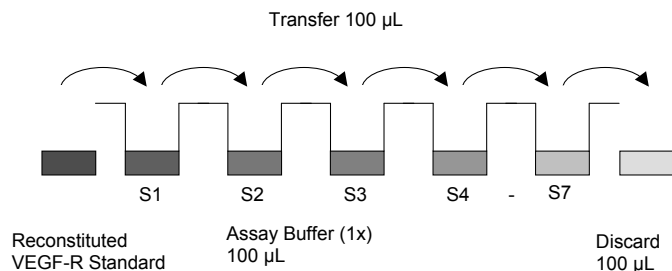

Fig. 7 Dilute standards - microwell plate
- Standard dilution on the microwell plate (Alternatively the standard dilution can be prepared in tubes - see "External standard dilution" on page 3.): Add 100  $\mu$ L of Assay Buffer (1x) in duplicate to all standard wells. Pipette 100  $\mu$ L of prepared standard (see Preparation of Standard "Human VEGF-R1 standard" on page 3, concentration = 20.00 ng/mL) in duplicate into well A1 and A2 (see Table 1). Mix the contents of wells A1 and A2 by repeated aspiration and ejection (concentration of standard 1, S1 = 10.00 ng/mL), and transfer 100  $\mu$ L to wells B1 and B2, respectively (see Figure 7). Take care not to scratch the inner surface of the microwells. Continue this procedure 5 times, creating two rows of human VEGF-R1 standard dilutions ranging from 10.00 to 0.16 ng/mL. Discard 100  $\mu$ L of the contents from the last microwells (G1, G2) used.